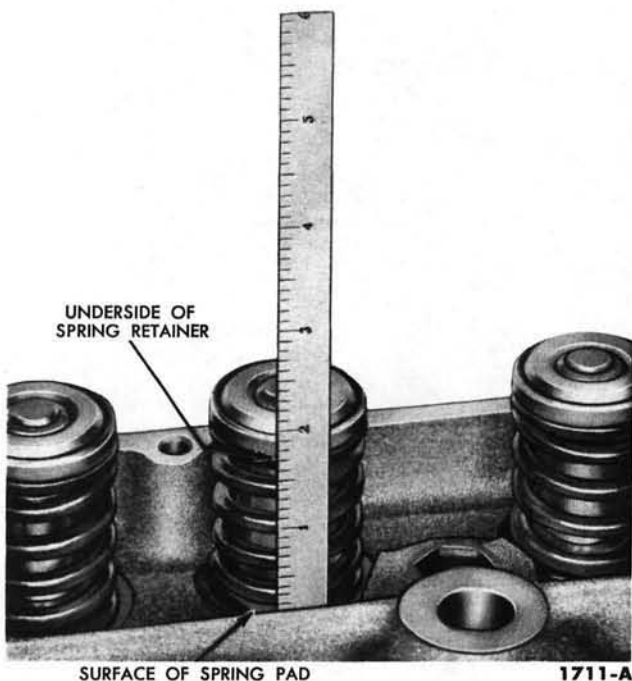

FIG. 25—Valve Spring Assembled Height
2. Measure the assembled height of the valve springs from the surface of the cylinder head spring pad to the underside of the spring retainer with dividers (Fig. 25).